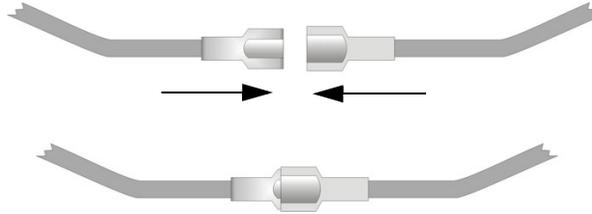

Figure 4.6 Splicing Control panel Battery Cable to RBB or AB-55 Battery Cable Extenders
- Connect the main control panel battery cables to the battery cable extenders as shown in Figure 4.6.